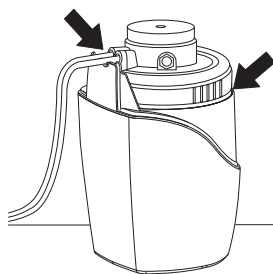

Fig. 43
15. **Check** for any signs of leakage (Fig. 43). Refer to Troubleshooting, p. 7.